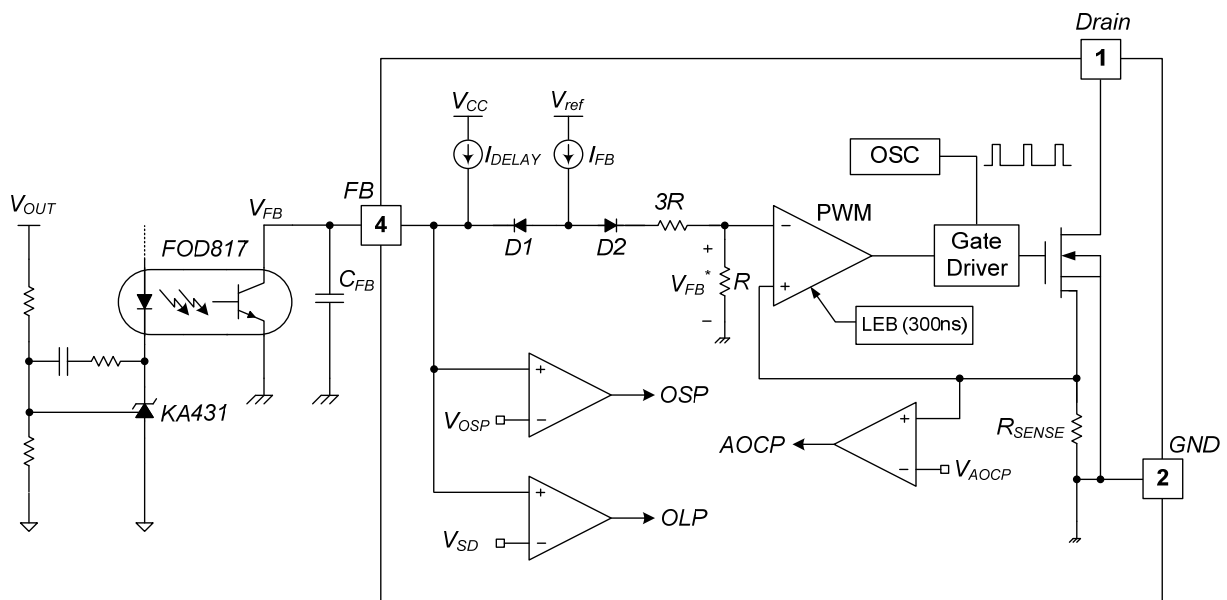

Figure 18. Pulse Width Modulation Circuit
3. Feedback Control: This device employs current-mode control, as shown in Figure 18. An opto-coupler (such as the FOD817) and shunt regulator (such as the KA431) are typically used to implement the feedback network. Comparing the feedback voltage with the voltage across the R_{SENSE} resistor makes it possible to control the switching duty cycle. When the reference pin voltage of the shunt regulator exceeds the internal reference voltage of 2.5V, the opto-coupler LED current increases, pulling down the feedback voltage and reducing drain current. This typically occurs when the input voltage is increased or the output load is decreased.
3.1 Pulse-by-Pulse Current Limit: Because current-mode control is employed, the peak current through the SenseFET is limited by the inverting input of the PWM comparator (V_{FB}^*), as shown in Figure 18. Assuming that the 90 μ A current source flows only through the internal resistor ($3R + R = 27k\Omega$), the cathode voltage of diode D2 is about 2.5V. Since D1 is blocked when the feedback voltage (V_{FB}) exceeds 2.5V, the maximum voltage of the cathode of D2 is clamped at this voltage. Therefore, the peak value of the current through the SenseFET is limited.